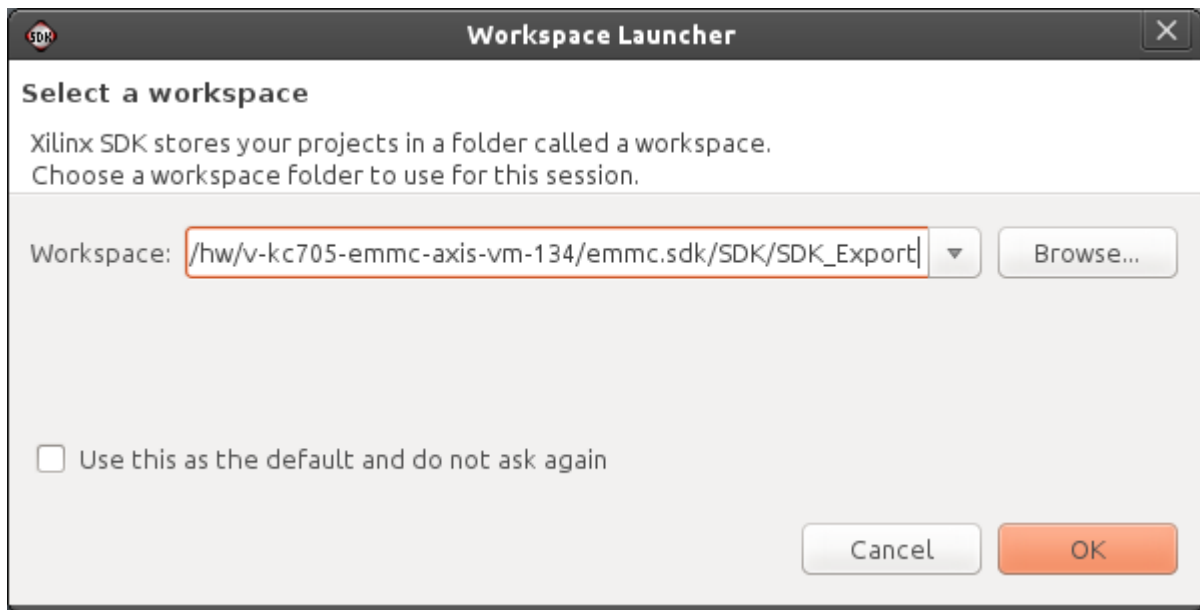

Figure 13: SDK workspace directory.
10. Set SDK workspace directory to *emmc-axis-v1/hw/v-kc705-emmc-axis-vm-134/emmc.sdk/SDK/SDK\_Export* (Figure 13).